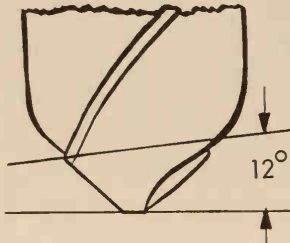

Fig. 4-45. Angle of lip clearance.
3. Lip clearance. Only the cutting edge of the two lips should contact the metal being drilled. The surface behind the cutting edge of each lip must be ground back at an angle of 12 degrees to provide proper clearance, Fig. 4-45. This angle can be increased to